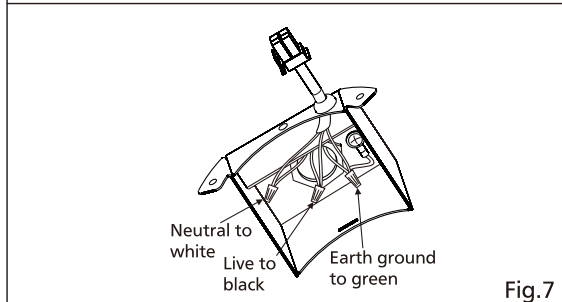

Fig. 7
7. Refer to wiring diagram (page 5). Follow all the local electrical safety codes as well as the National Electrical Code (NEC). Using UL approved wire nuts, connect house power wires to ventilating fan wires. Insure the wires are attached so that the wire connections within the Junction Box can be re-inserted into the Duct Unit. (Fig. 7)